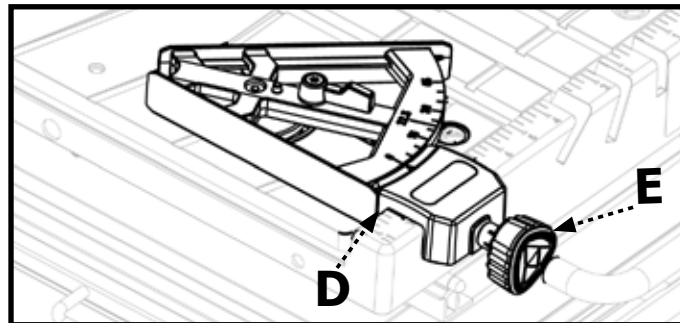

Figure 15
1. Attach the Miter Gauge (3) by placing it over the front edge of the table and tighten in place using the Miter Lock Knob (E) as shown in Figure 15.